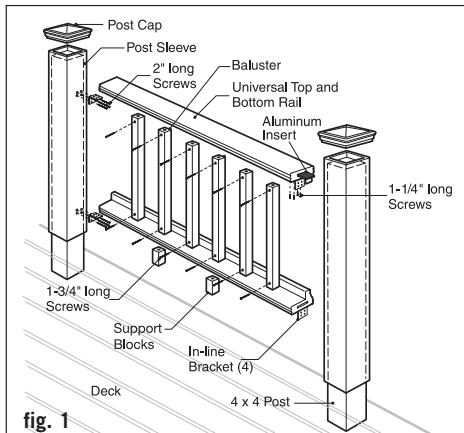

fig. 1
Step 6: Measure the distance between installed post sleeves to determine the length of the top and bottom rails. Trim the top and bottom rails to fit. If applicable, use a hack saw to trim the aluminum insert to the same length as the rails. The vertical legs of the rails face outside the deck (Figure 1).
Step 10: Cut two support blocks from baluster material to desired height and place equal distance from each post. Glue support blocks to bottom rail with construction glue. (Refer to Figure 1.)
Step 8: Cut two crush blocks from baluster material to desired height and angle, and place equal distance from each post. Glue crush blocks to bottom rail with construction glue. (Refer to Figure 1)
Step 9: Position the top rail between the posts. Check for plumb end-to-end and vertically. Attach the top rail to the post sleeves. Mark screw locations on post sleeve using the hinged bracket as a template and pre-drill using a 1/8" drill bit. Attach bracket to the post with (4) 2" long screws at one end. Plumb and repeat marking and pre-drilling the post sleeve for the other end. Attach to post with (4) 2" long screws.